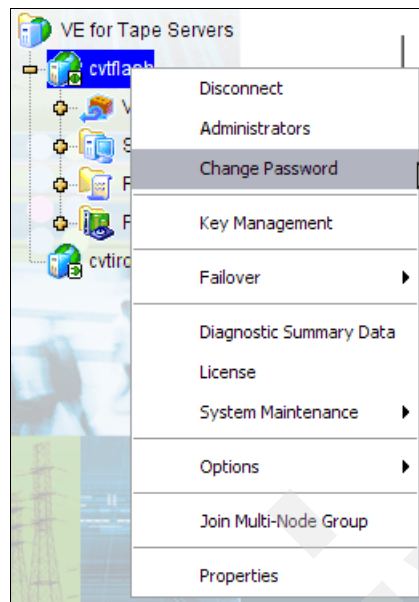

Figure 6-25 Change Password menu
1. Right-click <your TS7530 server> and select **Change Password** from the panel shown in Figure 6-25.